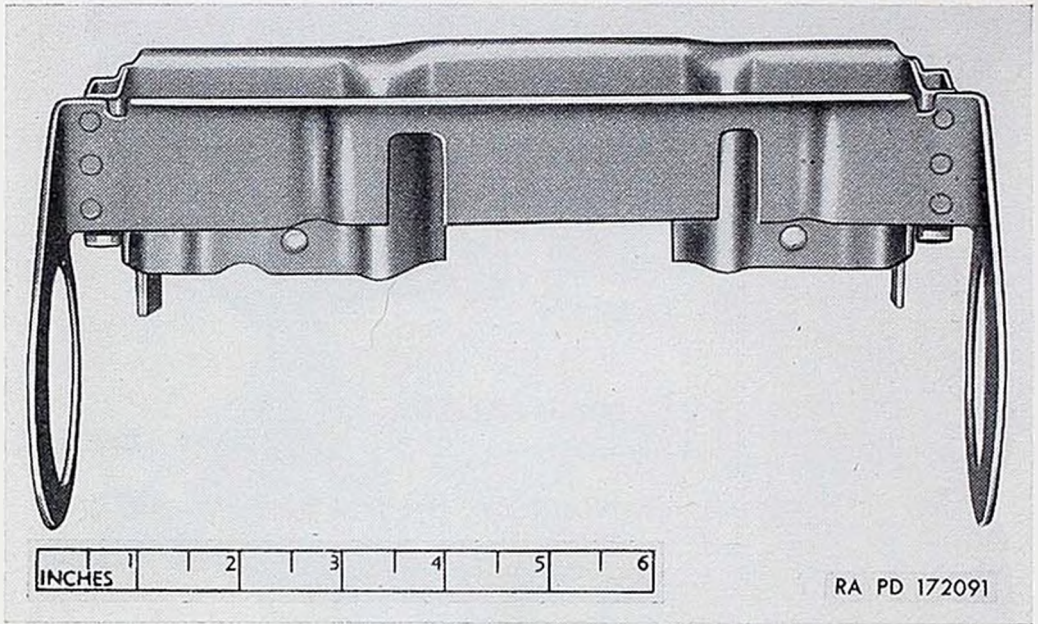

Figure 141. Feed chute adapter.
e. Unlock feed chute adapter from feed frame and remove feed chute adapter (fig. 141).
m. Unlock feed chute adapter from feed frame and remove feed chute adapter (fig. 152). The feed chute adapters of feed mechanisms M2E4 and AN-M2 are alike (refer to fig. 141); the feed chute adapters of the feed mechanism M2E5 are shown in figure 152. Remove stripper cam adapter (fig. 152) (early production models).